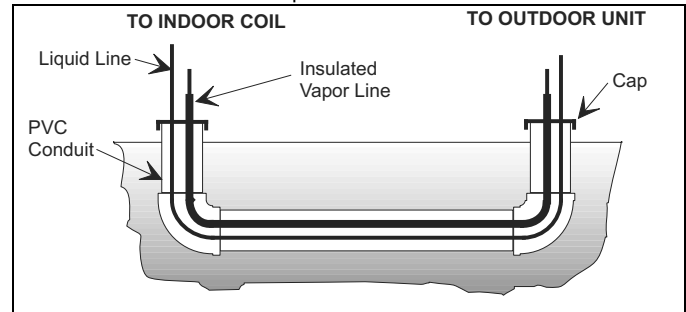

FIGURE 3: Underground Installation
6. Use PVC piping as a conduit for all underground installations as shown in Figure 3. Buried lines should be kept as short as possible to minimize the build up of liquid refrigerant in the vapor line during long periods of shutdown